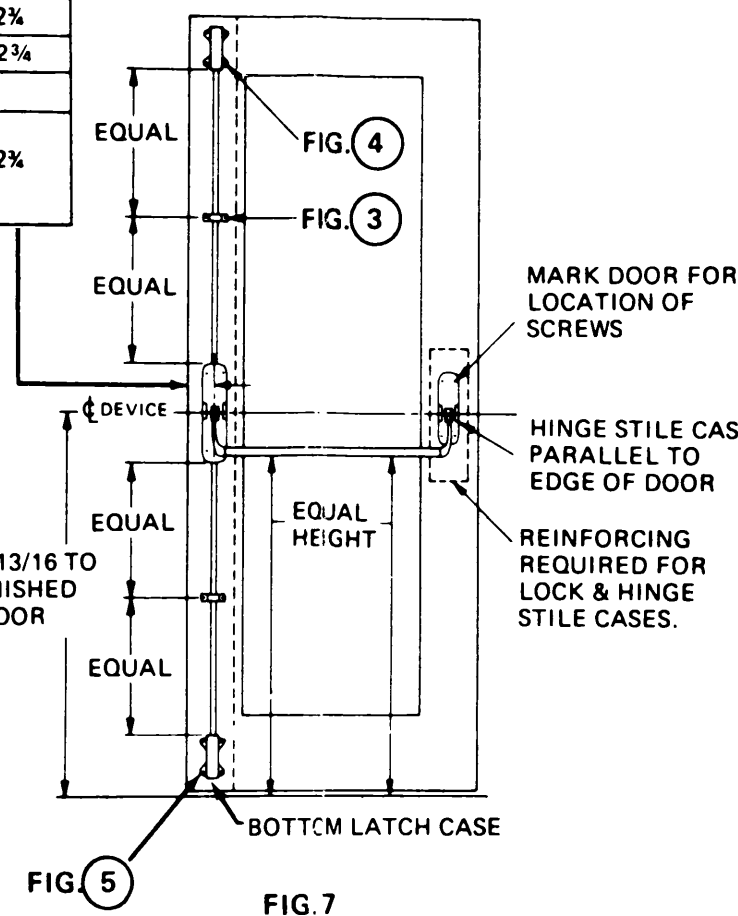

FIG. 7
5. APPLY HINGE STILE CASE AND CROSSBAR TUBE (FIG. 7)